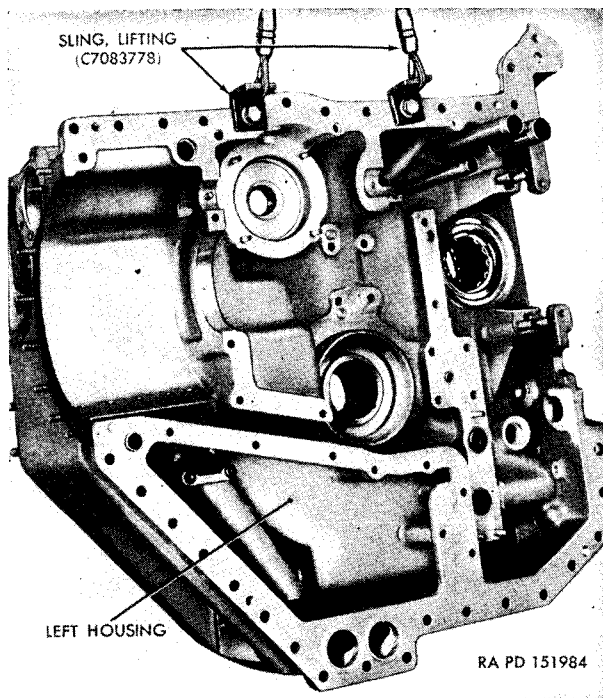

Figure 245. Changing left housing position.
- (1) Attach the lifting sling (C7083778) to the housing, using two bolts through the bolt holes in the top split-line mounting flange. Using a hoist, raise the housing and lower it so that it rests on its bottom on the assembly table (fig. 245).